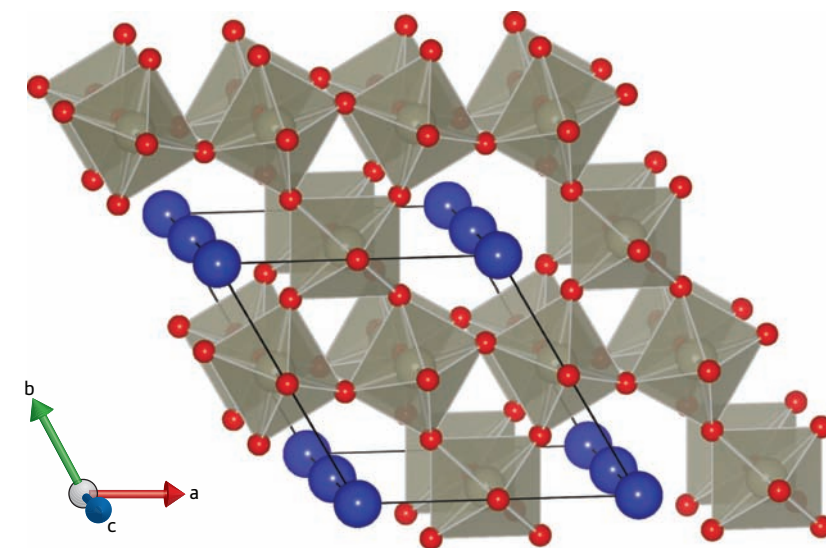

Figure 1: The crystal structure of Hg_xReO_3 . The mercury (Hg) atoms are shown in blue, oxygen (O) in red and rhenium (Re) in brown.
In classical superconductors such as mercury, superconductivity arises through the combined vibrations of the atoms in the crystal. This makes the crystal structure a key factor for the superconducting properties of a material. In the case of Hg_xReO_3 , the atomic structure consists of rhenium (Re) and oxygen (O) building blocks. In the empty spaces between them, the mercury atoms arrange in chains (Fig. 1). However, some of the available places along these chains lack mercury atoms, and the team's work suggests that this leads to an arrangement of paired mercury atoms.